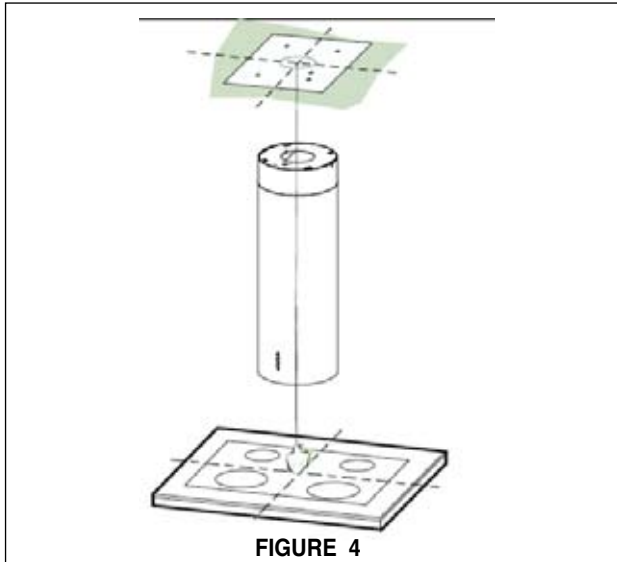

FIGURE 4
2. Use a plumb line to mark the center of the cooktop, use the mounting template on the ceiling to determine placement of mounting screws in ceiling. Install mounting screws, and mark the center of the holes in the ceiling template and drill the screw holes. (See **FIGURE 4**)